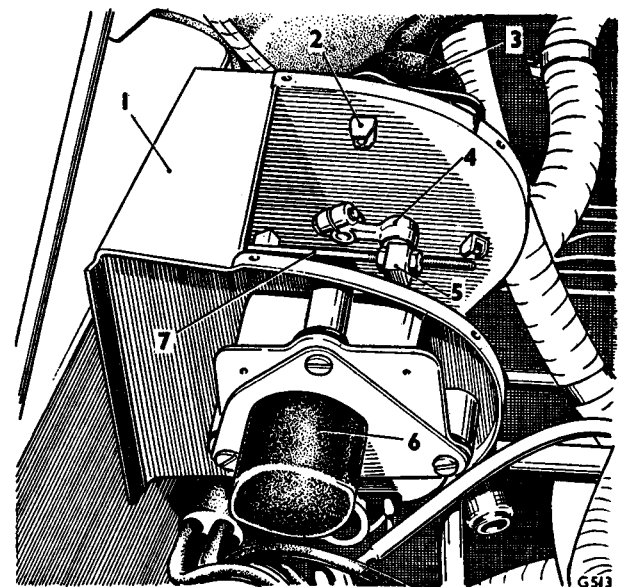

FIG. C6 UPPER QUANTITY FLAP ACTUATOR SETTING
(see Fig. C6)
3. Fit and tighten the actuator lever onto the spindle in the position shown in Figure C6.